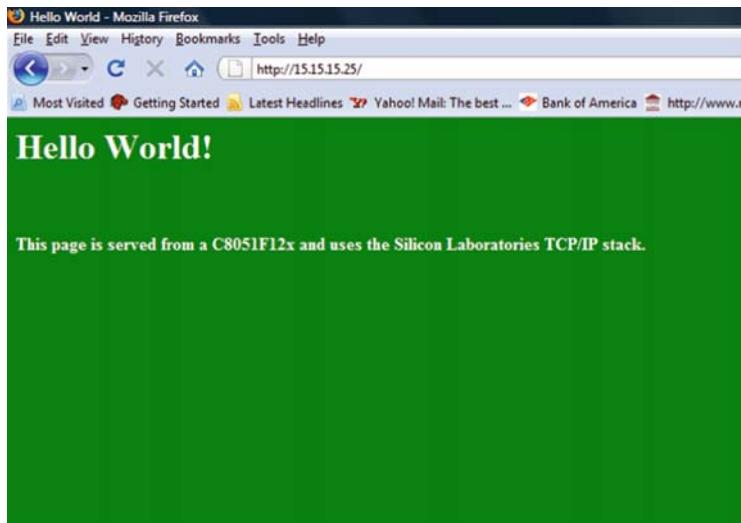

Fig. 8.8 Web Page from 8051 Web Server
10. Test the web server by opening your web browser and going to the IP address defined in step #4. In our example, we entered <http://15.15.15.25>. See the screenshot in Figure 8.8.